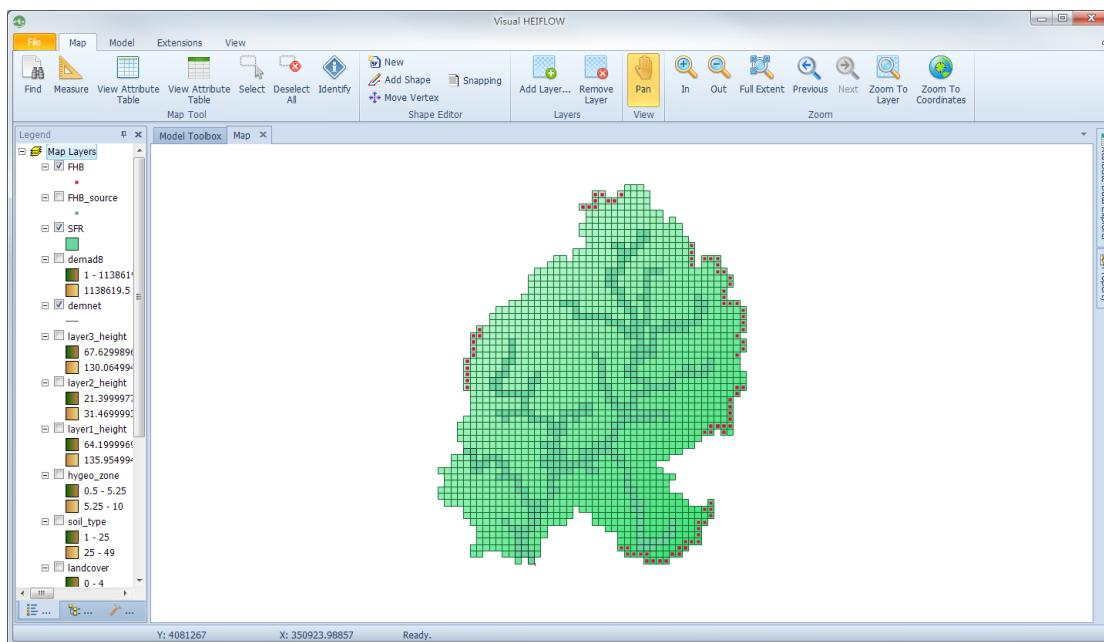

Figure 5-31. Generated FHB layer.
- 3) Click Run. When finished, a layer named “FHB” will be added to the map (Figure 5-31).